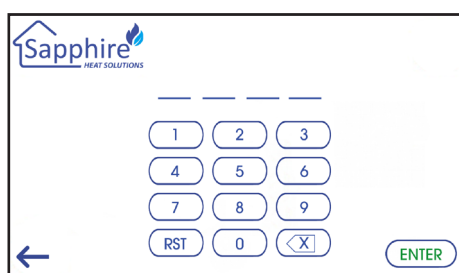

Fig.10.4
- User will be then prompted with the Password Entry Screen **Fig. 10.4**